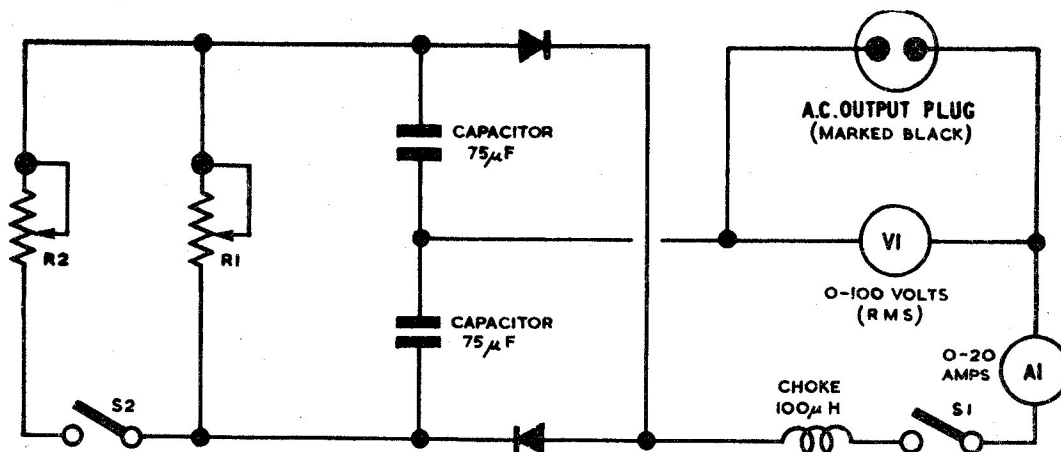

Fig. 3. Load diagram, Type 5A
- (1) D.C. input plug (top right-hand plug) to a 28-volt d.c. supply (pin 1 negative, pin 2 positive).
- (2) A.C. input plug (marked green) to the a.c. terminals of a generator, Type U, or Type U2.
- (3) Generator field plug (bottom right-hand plug) to the field terminals of the generator.
- (4) A.C. output plug (marked black) to the load and instruments shown in fig. 3.
- (5) The capacitor link is to be in the position appropriate to the generator used.
- (1) No load.
- (2) Full load, the type of load being as showing in fig. 3.